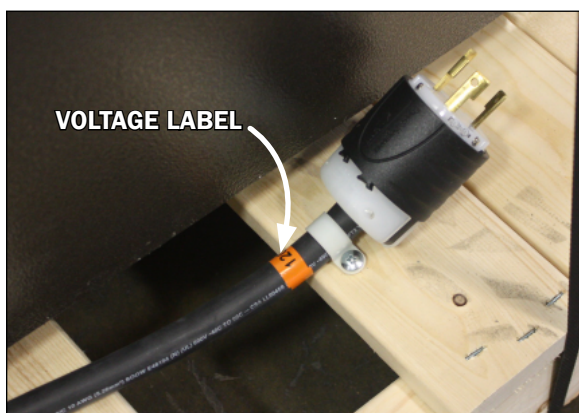

Fig. 5 Main power cord voltage label
Prior to plugging in and starting up the case always check the data tag located on the left end exterior panel or top interior of the case, as well as the voltage label found on the main power cord (Fig. 5) which can be found at the rear base panel. **Note:** **Check that the voltage of the receptacle you are going to use for power and the voltage required for the case match.**
1. After the main power cord (Fig. 5) located at the base panel of the case is plugged in and the power switch (Fig. 7) flipped to ON the case should begin normal operations.